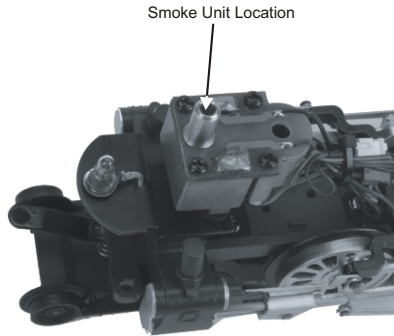

Figure 14
1. Once the boiler has been removed, locate the smoke unit assembly (see Figure 14).